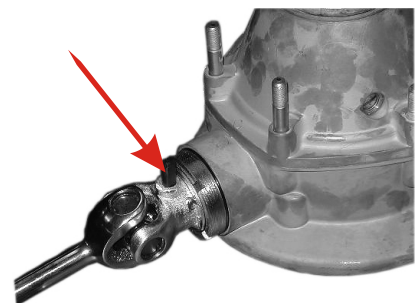

Fig. 92.
- Install shims onto the splined end of the driving bevel gear, connect the driving shaft, press the wedge in, screw the crown nut in and insert the cotter pin (Fig.92)